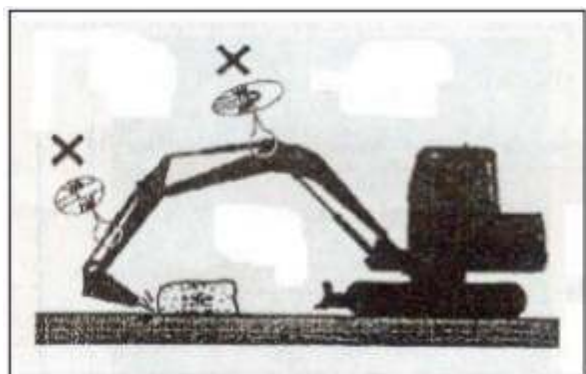

Fig 3-57
4. When operating the breaker, do not fully extend the boom and arm cylinders, see Figure 3-57. The gap between the end of the cylinder rod and the cylinder head should be kept above 50mm so as to prevent the cylinder from being damaged when operating the breaker.